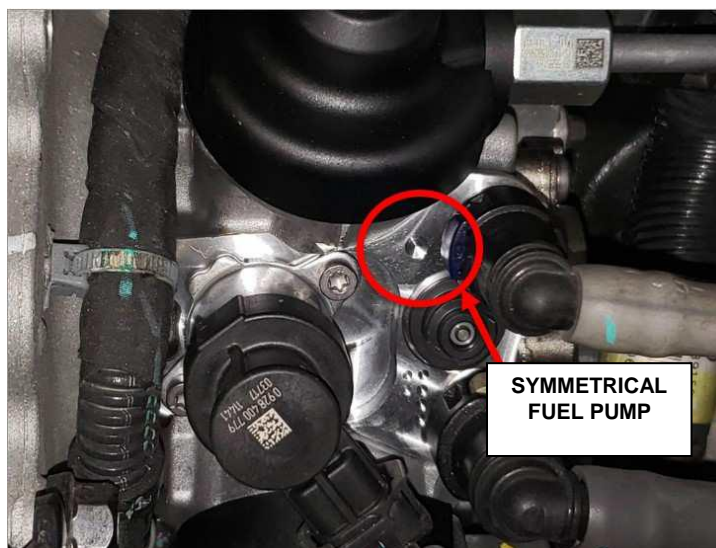

Figure 1 – Symmetrical Fuel Pump
- Vehicles with the new style **Symmetrical** pump will have one large single dot embossed in the pump housing (Figure 1).
- For vehicles equipped with a **Symmetrical** pump, choose the calibration labeled **Symmetric**, or **Sym Pump** (Figure 1).